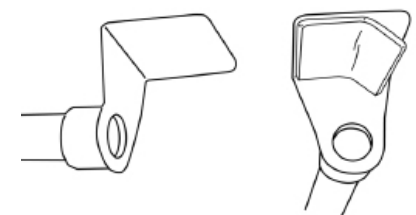

Figure 5. Support Arms and Installing Felt Pads
3. Notice that on each end of the PianoMic™ bar there are support brackets that will be placed on the upper edge of the piano case sides. These support brackets have rounded edges and are covered with a soft Polyolefin coating to avoid scratching the piano. The support brackets are thin enough to allow the piano lid to be completely closed with the PianoMic™ System inside the piano. The PianoMic™ comes with felt pads installed on the top of each support arm. If you desire a more snug fit with the lid closed or if vibration becomes an issue, install one of the enclosed spare felt pads on the bottom side of the support brackets as shown in Figure 5.